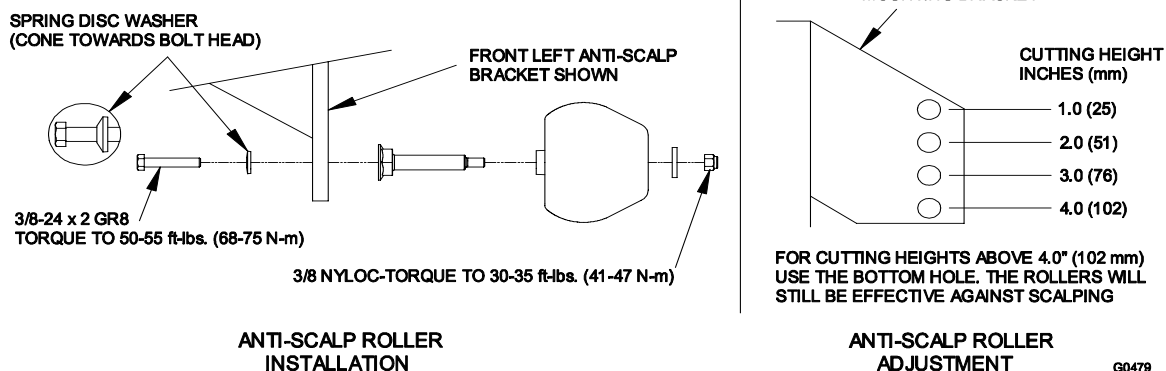

FIGURE 6
- g) Adjust anti-scalp rollers for Normal Operating Conditions. Place rollers in one of the positions shown in Figure 6. Rollers will maintain 3/4 in. (19 mm) clearance to the ground to minimize gouging and roller wear or damage.